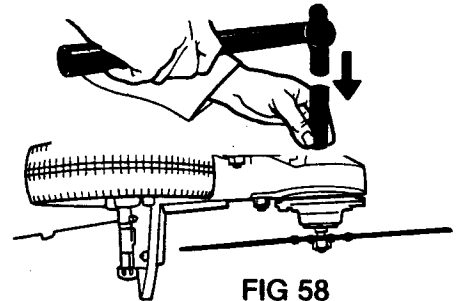

FIG 58
4. With a soft punch, tap hex end of blade shaft as in Fig. 58 until cover and gear assembly pops out of body housing.